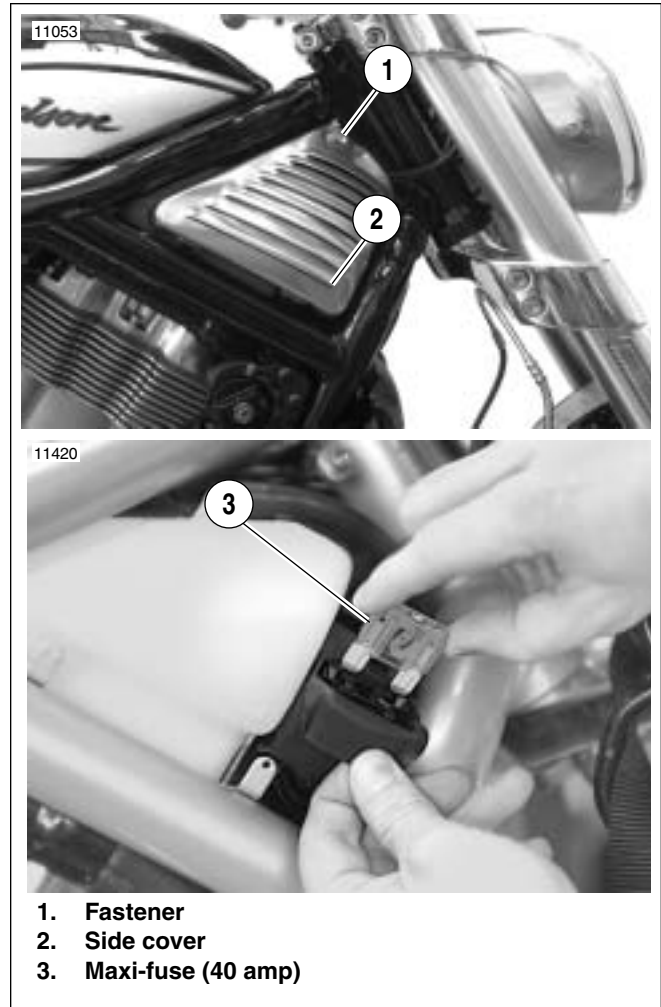

Figure 3-7. Maxi-Fuse (typical)
2. See Figure 3-7. Remove right side cover.